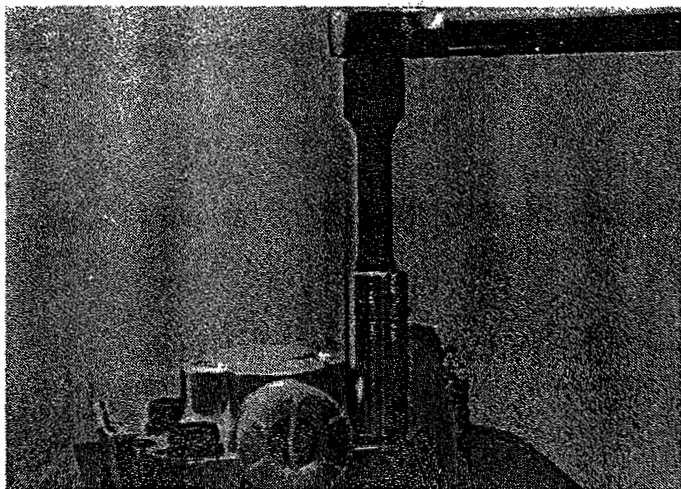

Fig. 19
23. Install washers (Item 15) and capscrews (Item 16) and run them up tight with fingers. Place pump in machinist vise with hexhead on capscrews up, use cardboard between the jaws of the vise and pump. Torque the capscrews to 30-35 ft. lbs. After capscrews have been torqued, check to see if shaft can be rotated. (Fig. 19)